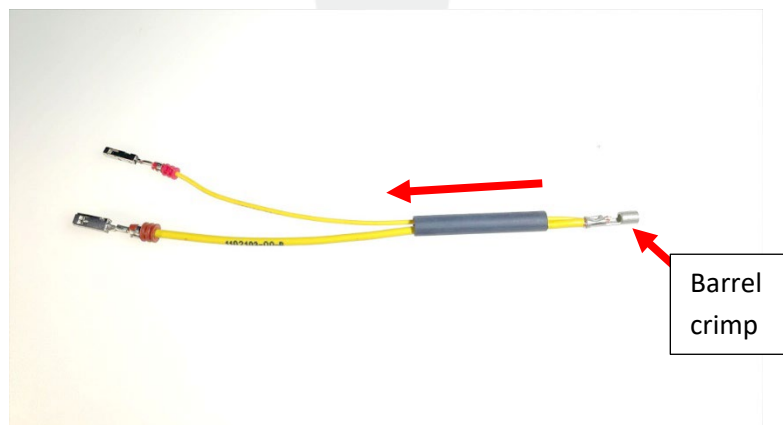

Figure 24
24. Slide the shrink tubing over both wires of the jumper, to the middle of the jumper (Figure 24).